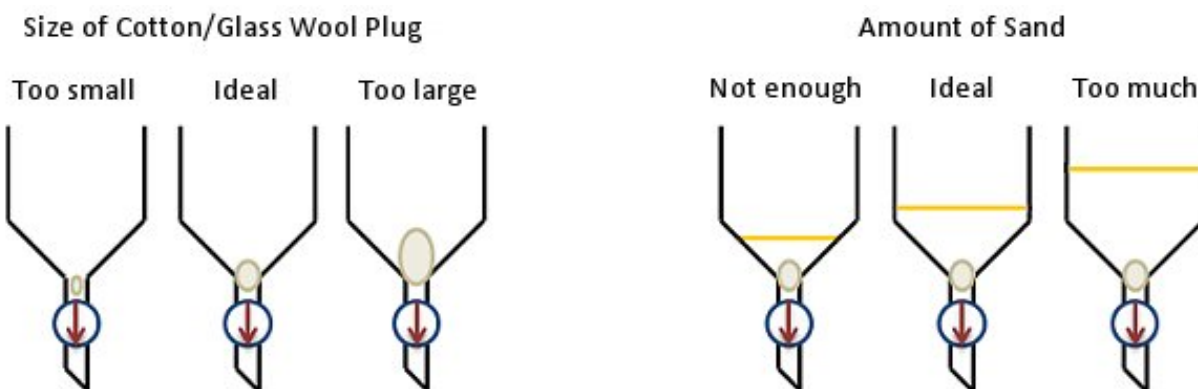

Figure 3. Guidelines for the correct size of cotton or glass wool and sand for non-fritted columns.
The ball of cotton or glass wool should be large enough to plug the bottom of the column, but not so large and densely packed that it restricts solvent flow (Fig. 3). A piece the size of the tip of your little finger should be suitable for most columns.
3. Add a layer of sand until it reaches the main body of the column (approx. 2 cm, Fig. 3). This will give the stationary phase an even base and prevent concentration and streaking of the bands as they come off the column and are collected.